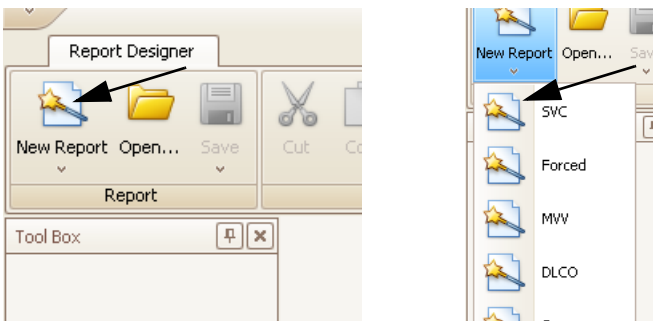

Fig. 12-3: New Report button (left), test selection (right)
- On the Report Designer tab, select **New Report** (Fig. 12-3: left).
- Select the test to which you want to add the logo (Fig. 12-3: right).